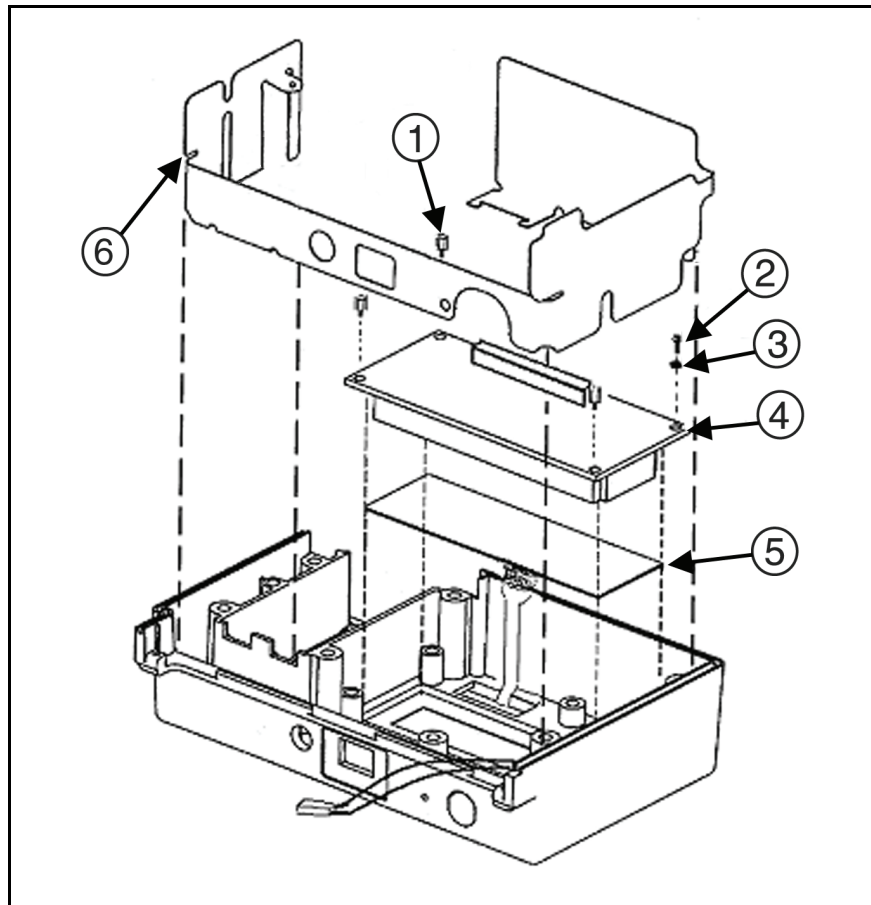

Figure 6-7. ESD Flex Circuit & LCD Module Removal
2. Refer to Figure 6-7. Remove the three standoffs (1), one screw (2), and one lock washer (3), that secure the LCD Module (4) to the Front Case Assembly.